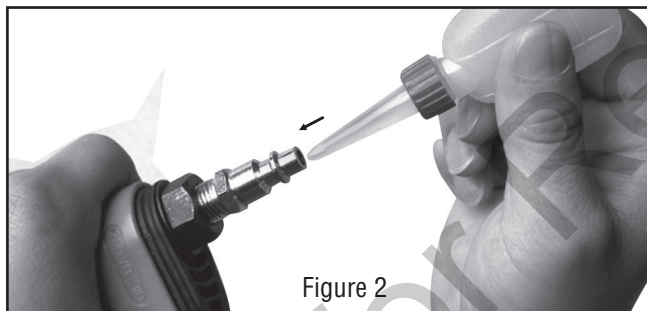

Figure 2
2. Place 2 - 3 drops of air tool oil (not included) into the male plug before each use. (See Figure 2)